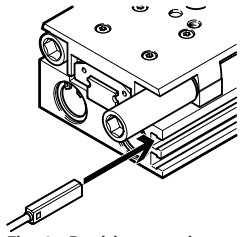

Fig. 3: Position sensing
- Slide the proximity switches into the slots → Fig. 3.